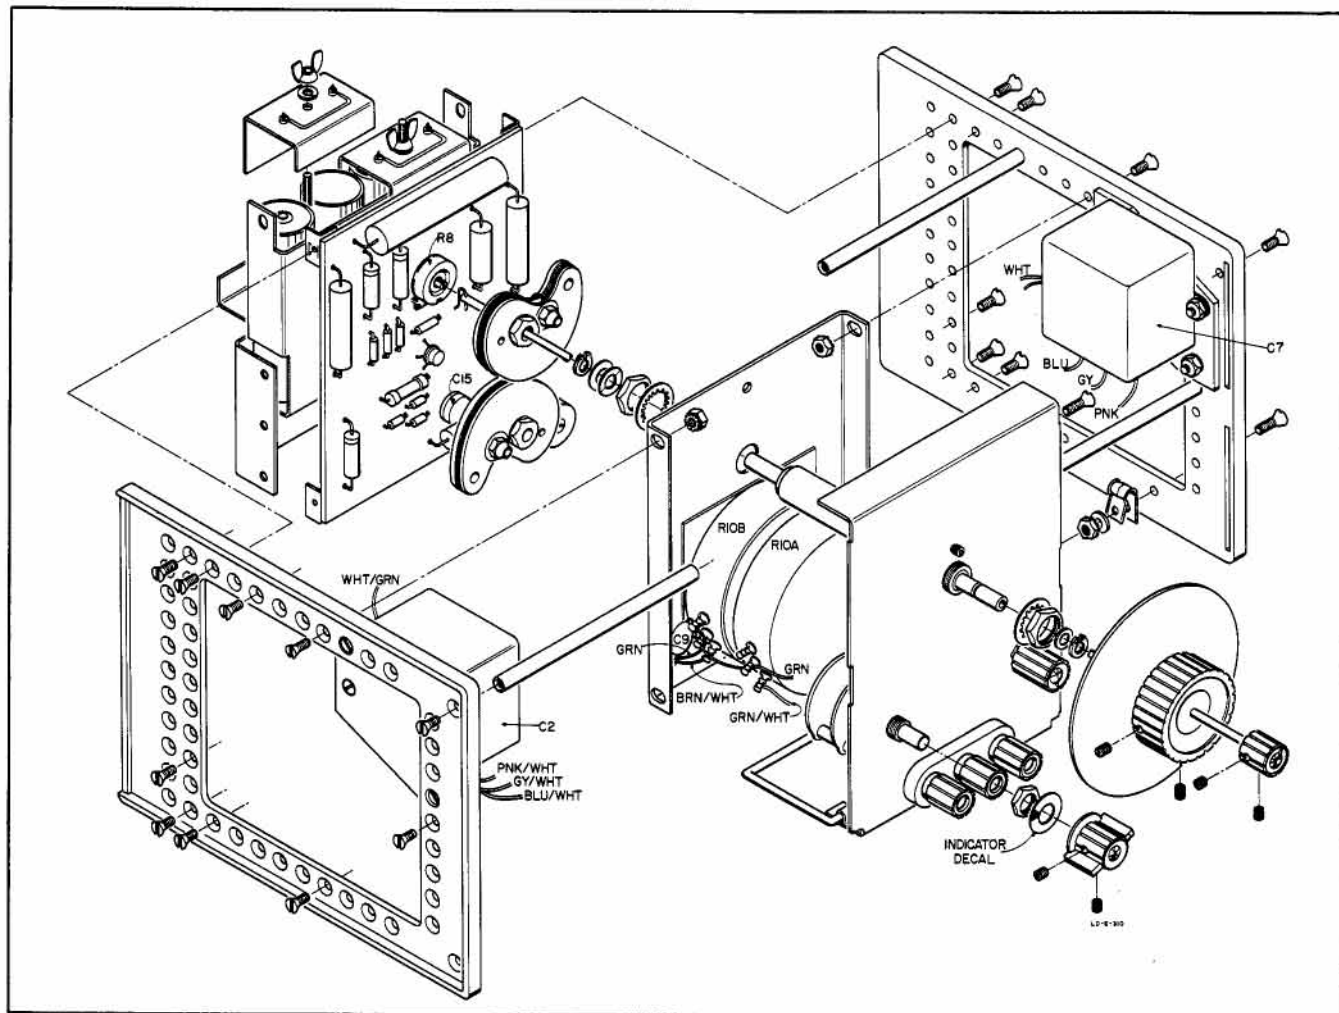

Figure 5-4. Model 204B, Exploded View
5-11. When repairing the Model 204B, use the exploded view, figure 5-4, as an aid to identifying parts.
m. Set FREQ. to 56 (560 kc), and adjust C15 (figure 5-4) to obtain a 560-kc output. If necessary, change the value of C14 for proper range of C15.